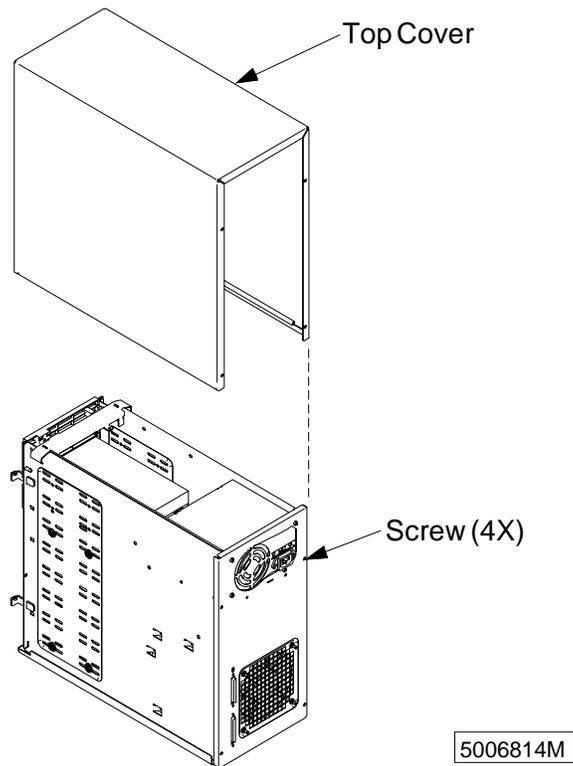

Figure 3-3. Top Cover
- 2 At the back of the 7131 Storage Tower, remove the four screws that fasten the top cover to the 7131 Storage Tower. See Figure 3-3.
- 7 Remove the top cover from the 7131 Storage Tower. See Figure 3-3 on page 3-4.